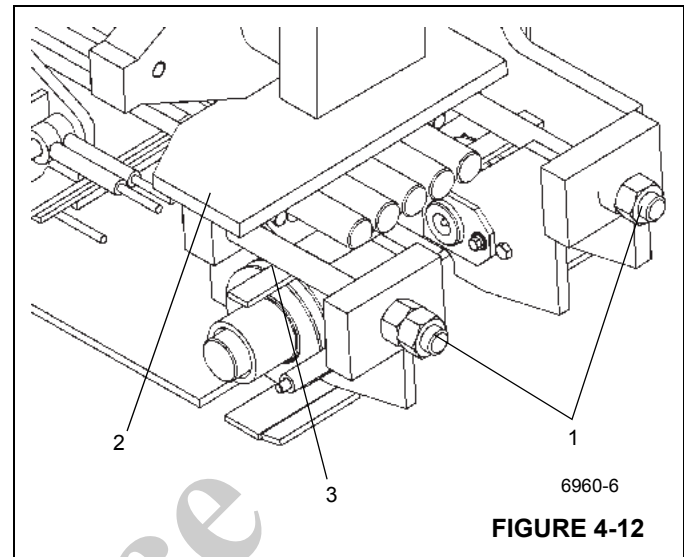

FIGURE 4-12
14. Remove the two adjusting bolts (1) from the extend cable sled weldment (2) (Figure 4-12).
15. Remove the two bolts securing the keeper plate (3) to the bottom of the sled and remove it from the cable ends (Figure 4-12).